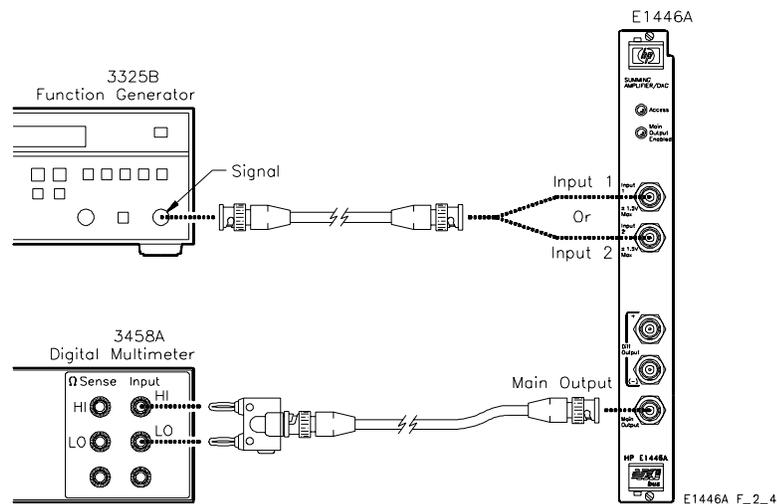

Figure 2-4. Main Output Test Setup
- Connect the DMM to the amplifier as shown in Figure 2-4
2. Connect the Source to the amplifier Input1 as shown in Figure 2-4.